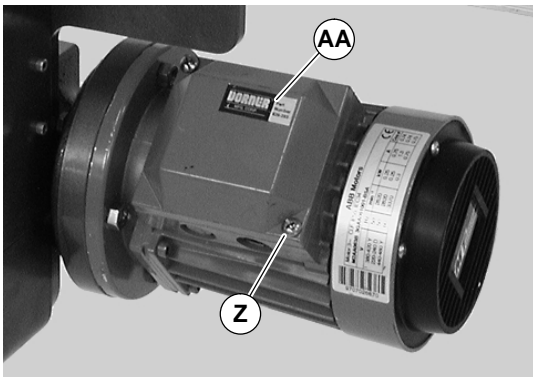

Figure 16
- a. Loosen terminal box screws (Z of Figure 16) and remove cover (AA).